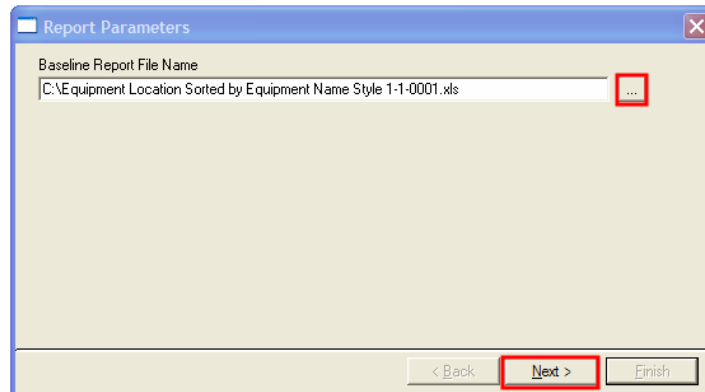

Figure 23: Report Parameters Dialog Box
7. The **Report Parameters** dialog box appears as shown in Figure 23. You can click browse to select a baseline report if you want to compare the report with any previously created report.